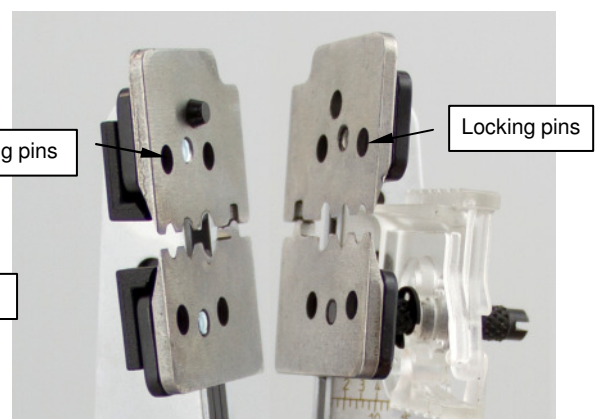

Figure 6
4. Fit new blades 5...8 on the locking pins of the blade receptacle 1...4 (worn side facing inwards) (see Figure 6), fit wire centring aids 10 and 11.